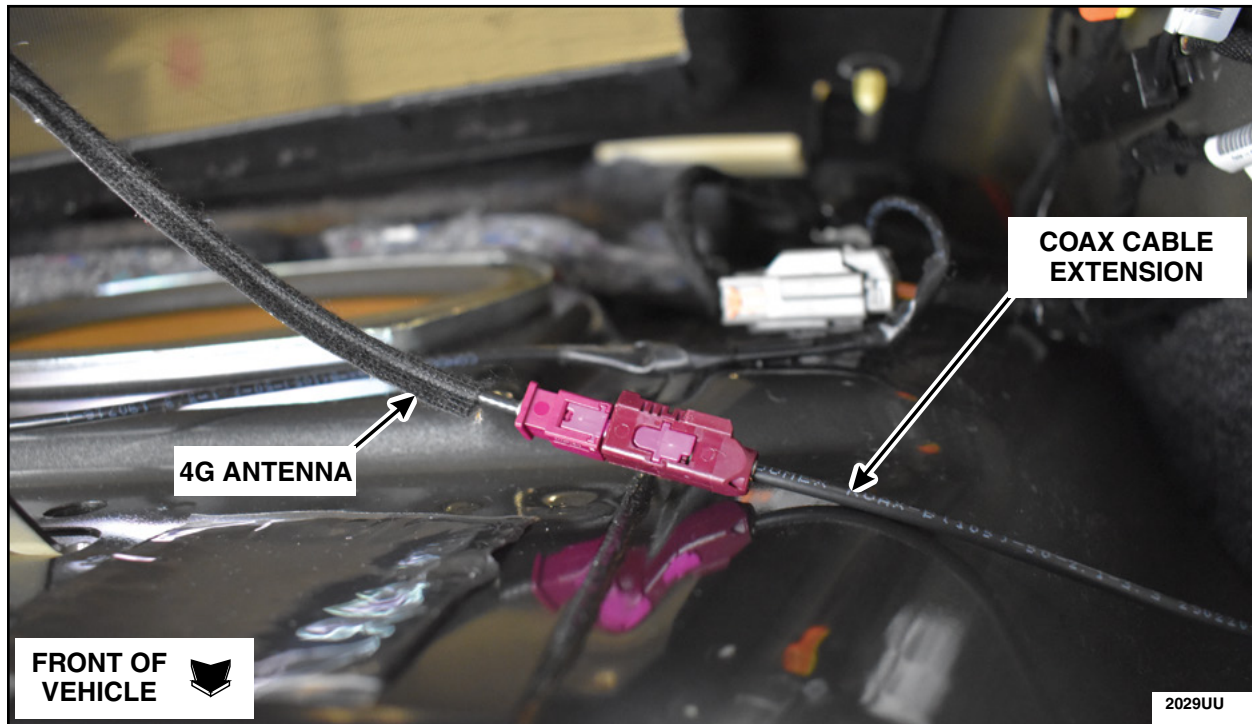

FIGURE 10
11. Connect the coax cable extension and the 4G antenna. See Figure 10.